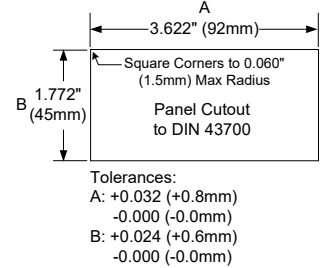

Figure 1. 1/8 DIN Panel Cutout Dimensions
- Prepare a standard 1/8 DIN panel cutout - 3.622" x 1.772" (92 mm x 45 mm). Refer to Figure 1 below for more details.